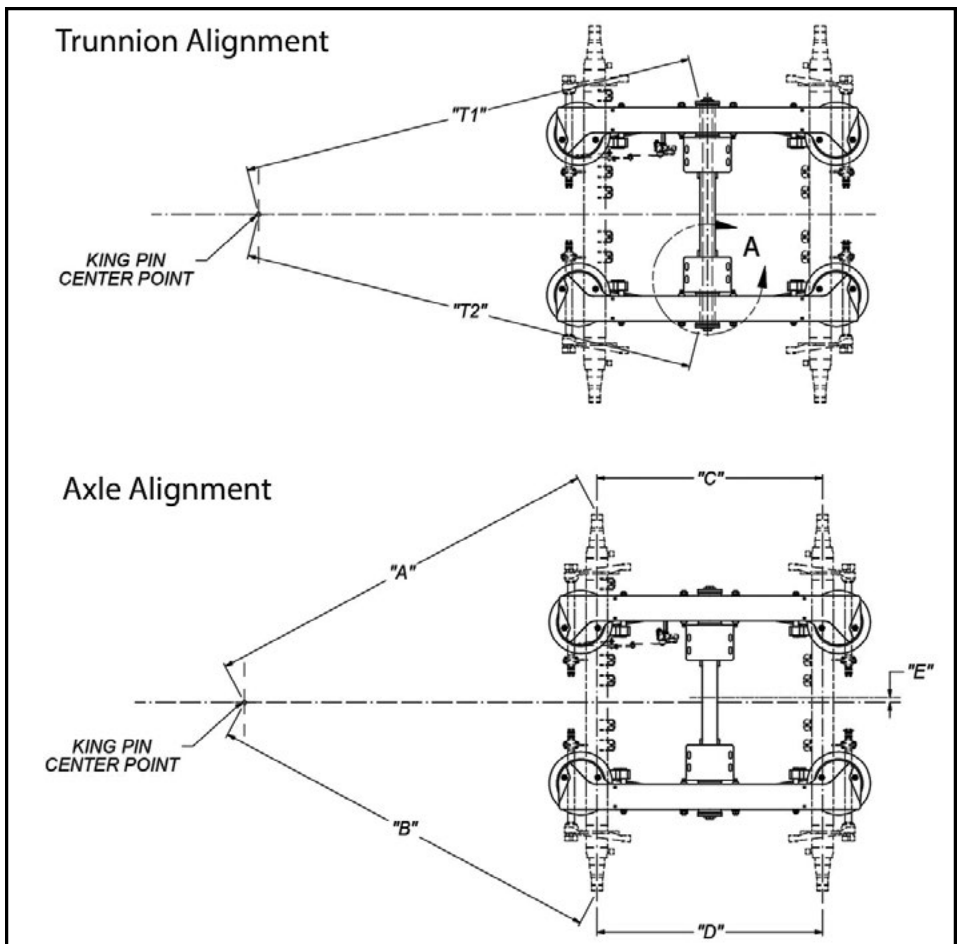

Figure 10. Kingpin measurements for 254 air ride single point suspension trunnion and axle alignment.
3. Measure from the kingpin center point (Figure 10). Verify that dimension "A" and "B" are within $\pm 1/8"$. Snug the pivot fasteners and recheck alignment.